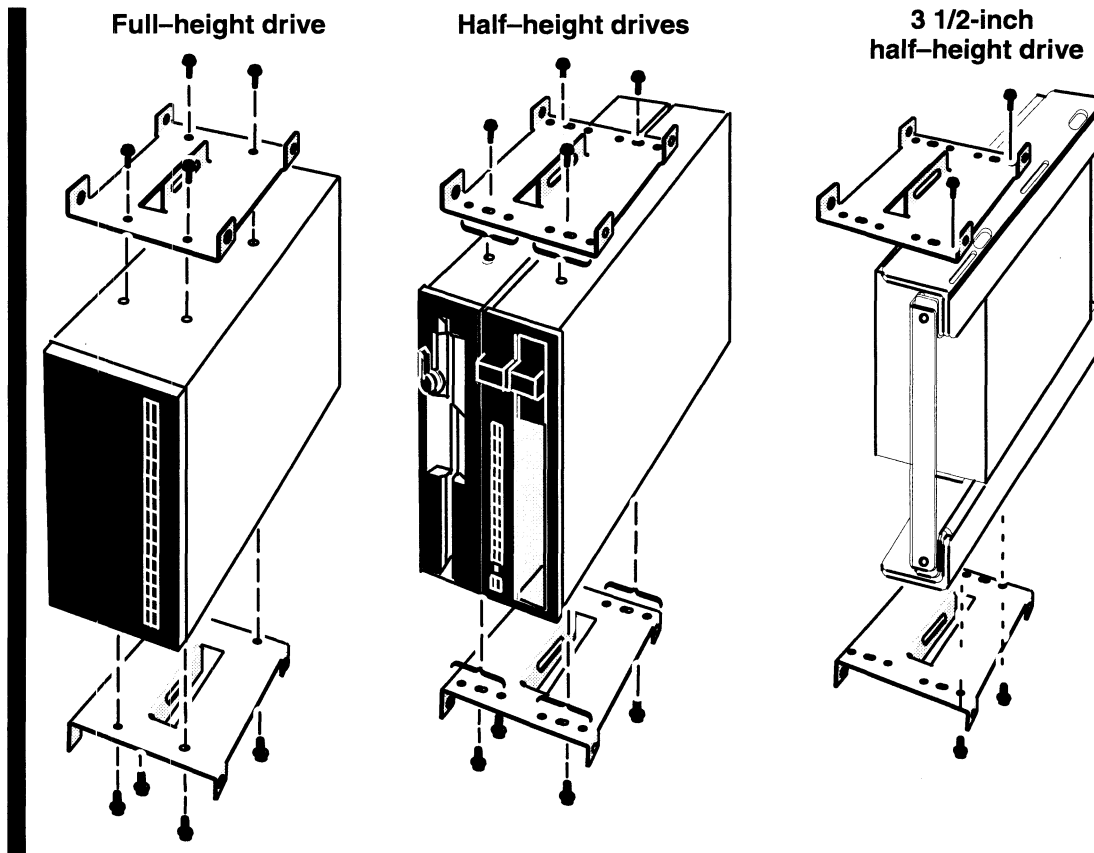

Figure 7-9 Attaching Brackets to Drives
2. Attach the two brackets to the new drive with the eight mounting screws and washers (four for each bracket) as shown in Figure 7-9. If you are adding only one half-height drive to the brackets, you need to use only four screws and washers (two for each bracket).